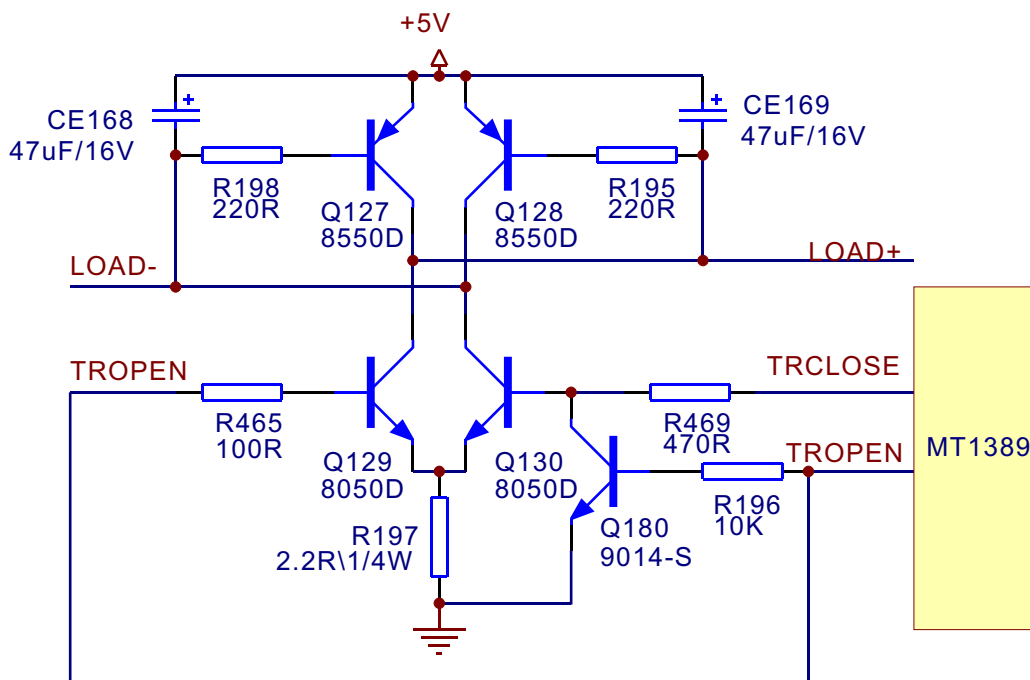

Figure 3.2.6.1 Disc in/out circuit diagram
1. Disc in/out circuit is shown as the following figure 3.2.6.1: